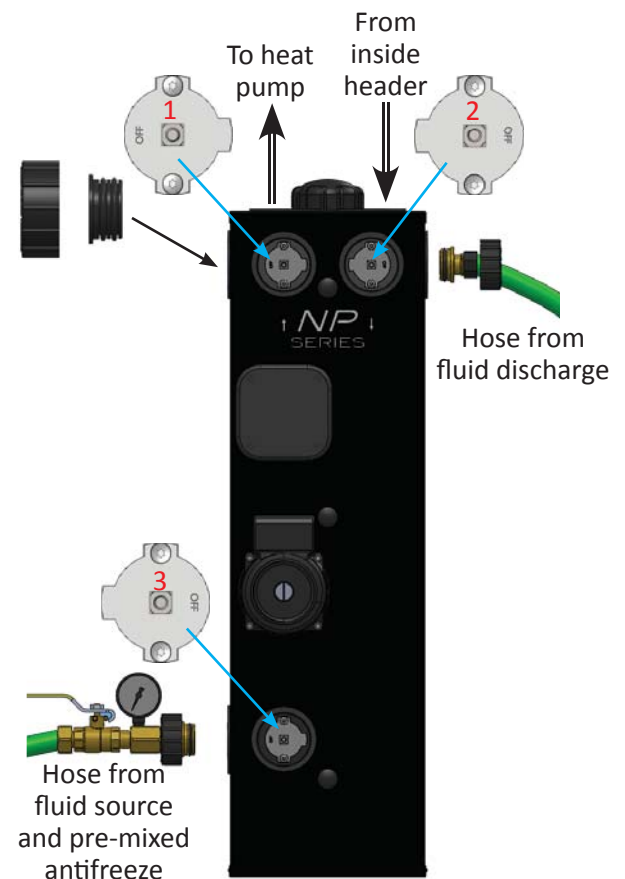

Figure 10: Flushing with inside header
3. Cap the unused port on discharge side of the flow center with a double O-ring plug seal and cap (Figure 10). This will prevent accidental discharge through the valve during the flushing process.
4. Attach a Geo-Gooser tool with garden hose adapter to valve #3 on the flow center and a discharge hose to valve #2 as shown in Figure 10. The supply end of the hose should be connected to a clean water supply source, or to a transfer pump and pre-mixed antifreeze source.
5. Rotate OFF on valve #3 to the 3-o'clock position to allow the tank to be filled with fluid (Figure 10). Open the fluid supply and Gooser ball valve to allow the tank to fill. Once the tank is full, close the Gooser ball valve.